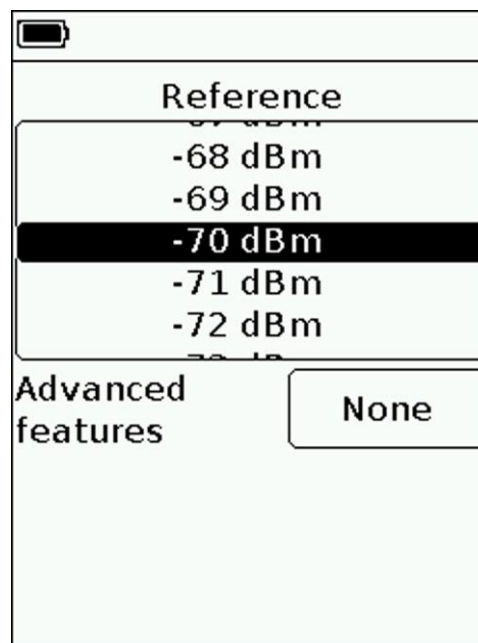

Figure 8.4.1 – Setting the reference level of the input signal
Enter the main menu of the device and select the «Plot» section. A menu will appear on the screen, as in Figure 8.4.1.
8.4.1.1. To change the scale of the vertical logarithmic scale displaying the amplitude of the test signal, you must change the value of the reference level of the input signal in the range from -30 dBm to -75 dBm. Changing the parameter is performed by "scrolling" the values to a fixed selected area. *In our example in figure 8.4.1, the reference level is set to -70 dBm.*